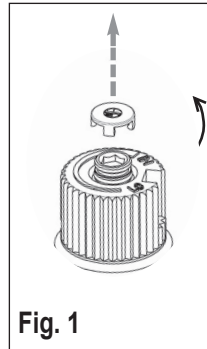

Fig. 1
- Remove the black protection cap by hands (fig. 1).